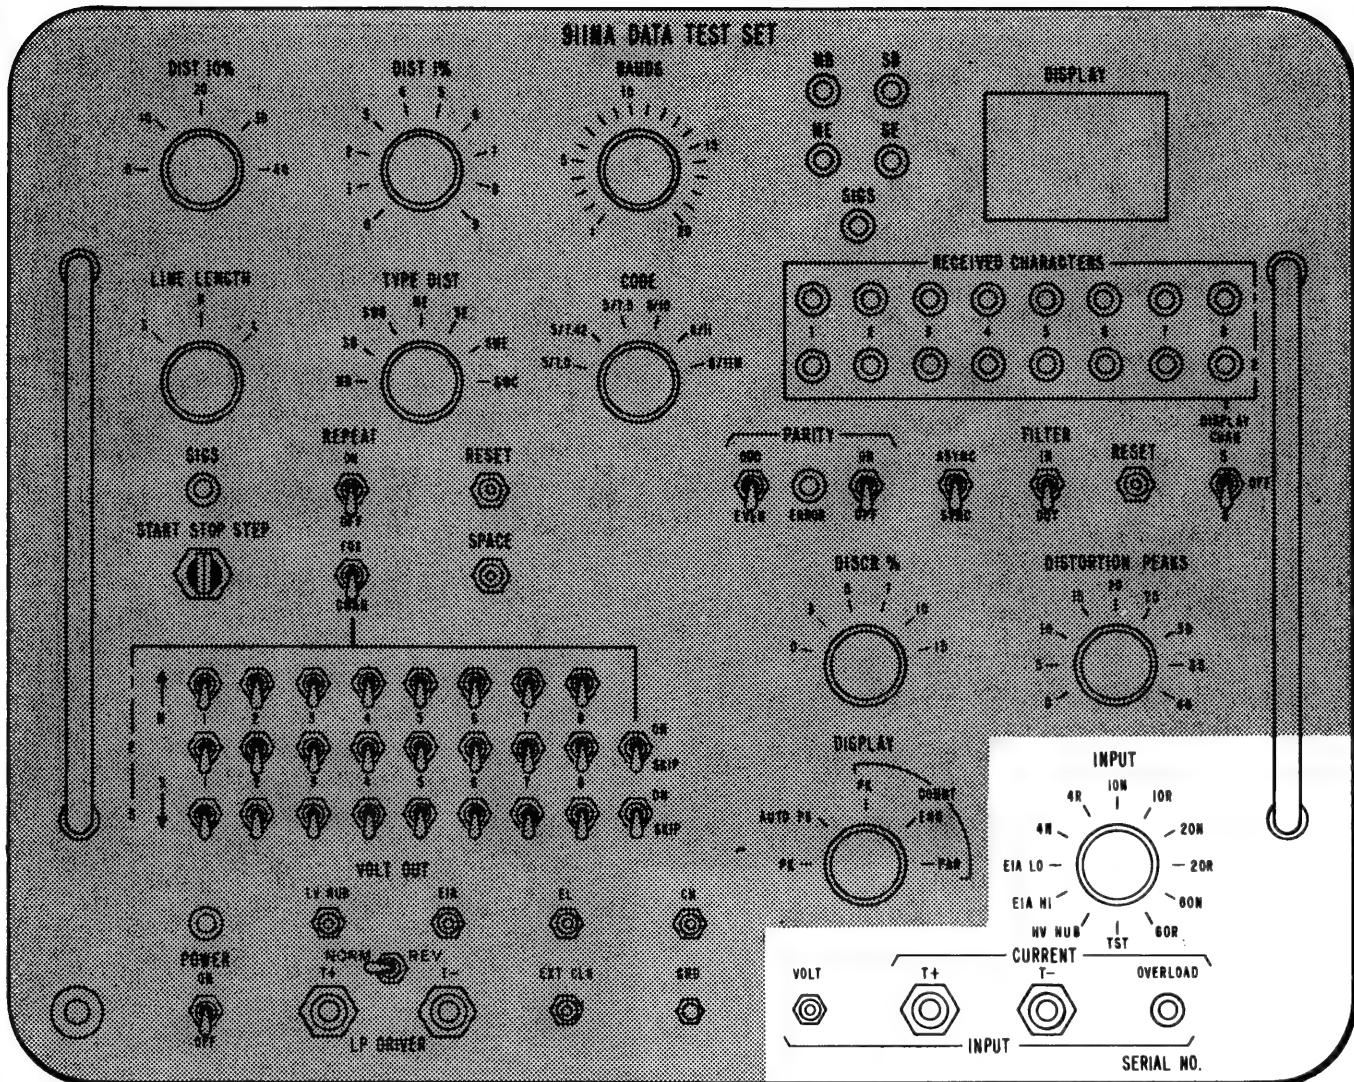

Fig. 15—Location of DMS Inputs
3.30 The input area of the DMS is shown in Fig. 15. All voltage inputs are connected to the **VOLT** jack with the **INPUT** switch set to the proper position [**EIA LO** (normal EIA signals), **EIA HI** (provides a high impedance input for bridging on circuits without signal interference), **HV HUB** (No. 2 hub)] as required. Neutral current signals of 4, 10, 20, or 60 milliamperes, either normal or reversed, are connected via the **T₊** (positive on tip) or **T₋** (negative on tip) input jacks. The **INPUT** switch must be set to the proper position as required. Input protection for the current inputs provides a short circuit and lights